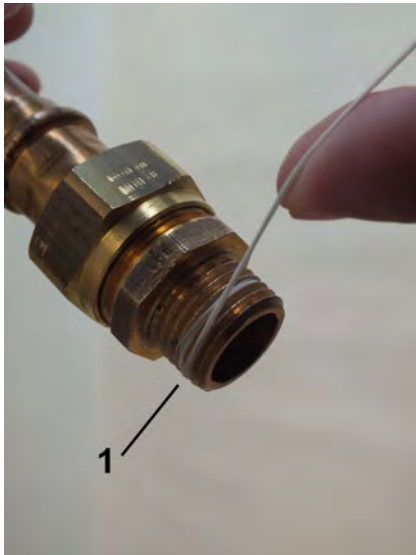

Fig. 10: Apply sealing thread
2. ➤ Apply sealing thread (Fig. 10/1) to the napped area in the threaded direction. Observe the quantity recommended by the sealant manufacturer.